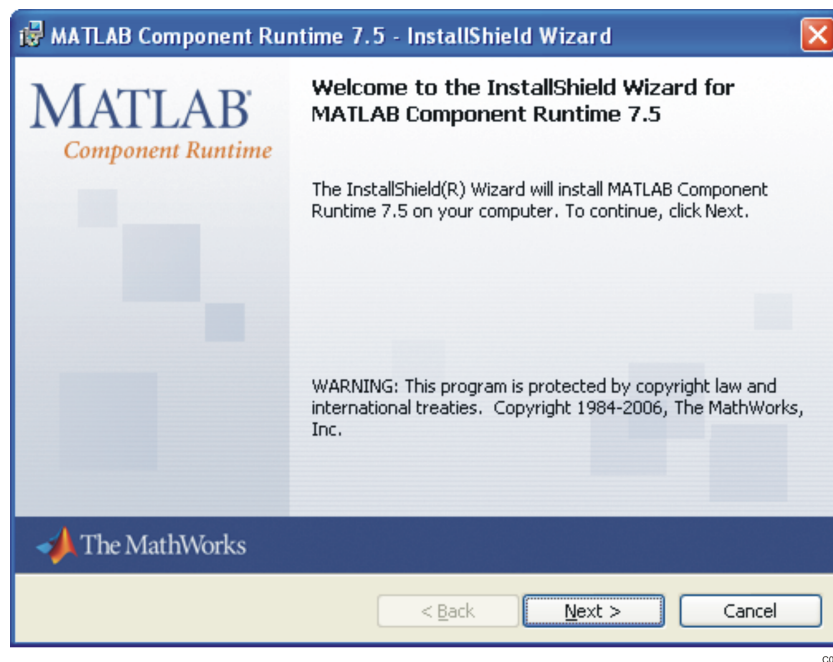

Figure 3. MATLAB Welcome Screen
2. When the MATLAB Component Runtime 7.5 screen (Figure 3) displays, click Next.